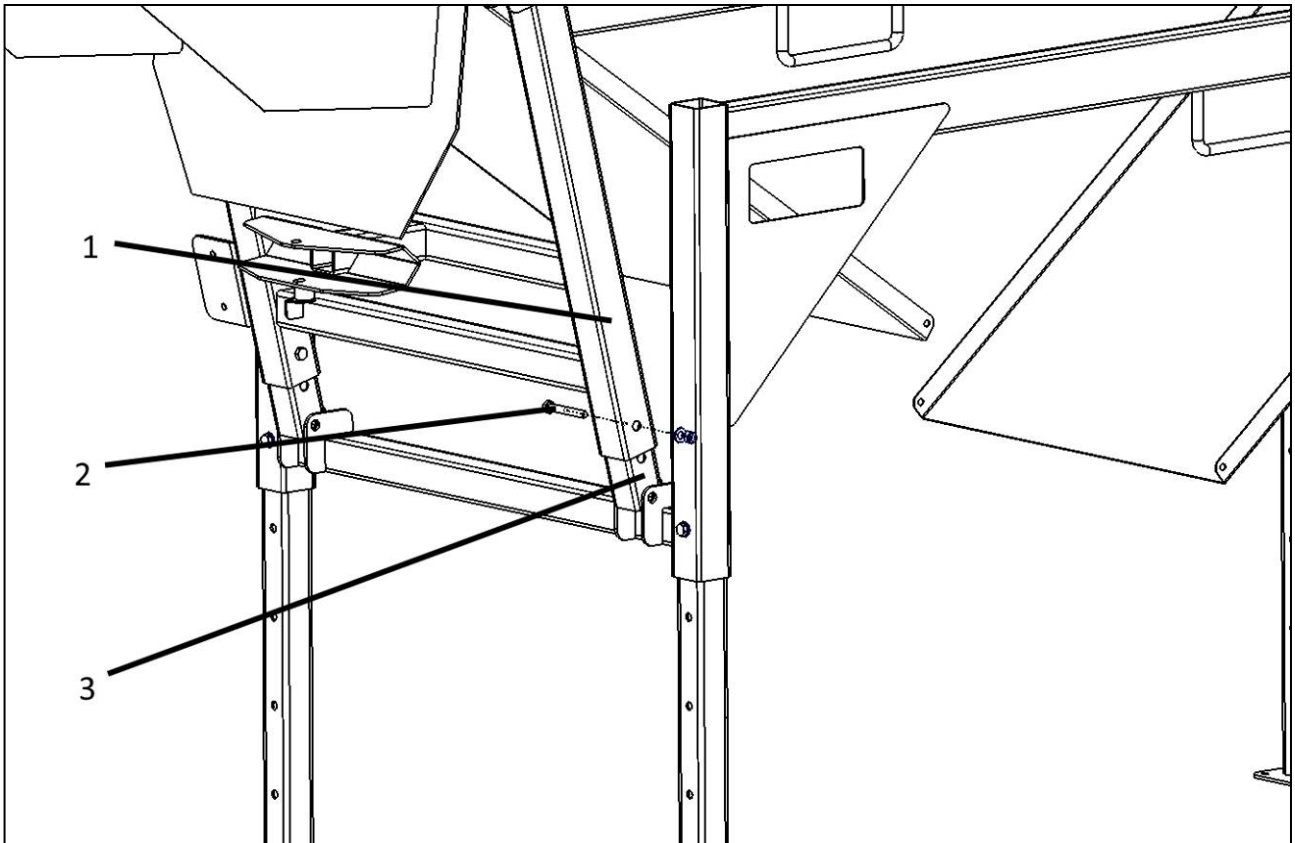

Figure 13
- The timber feed-through rate can be adjusted by adjusting the angle of the roller angle (Figure 13).